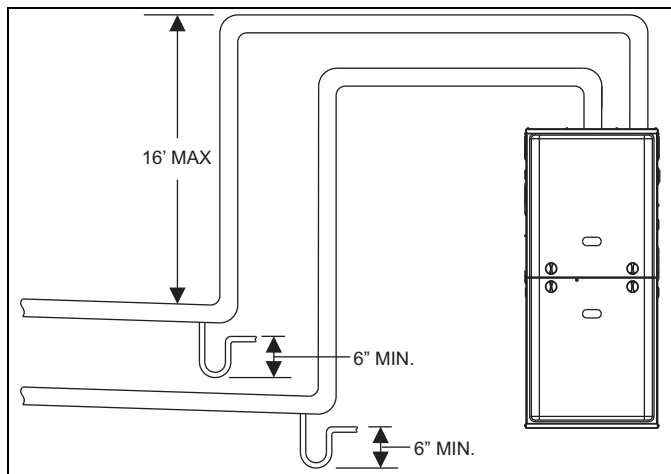

FIGURE 33: Downward Venting
1. **OUTDOOR COMBUSTION AIR:** This is a direct vent configuration where the combustion air is supplied through a PVC or ABS pipe that is connected to the PVC coupling attached to the furnace and is terminated in the same atmospheric zone as the vent. This type of installation is approved on all models. Refer to Figure 33.
This installation requires combustion air to be brought in from outdoors. This requires a properly sized pipe (Shown in Figure 33) that will bring air in from the outdoors to the furnace combustion air intake collar on the burner box. The second pipe (Shown in Figure 33) is the furnace vent pipe.